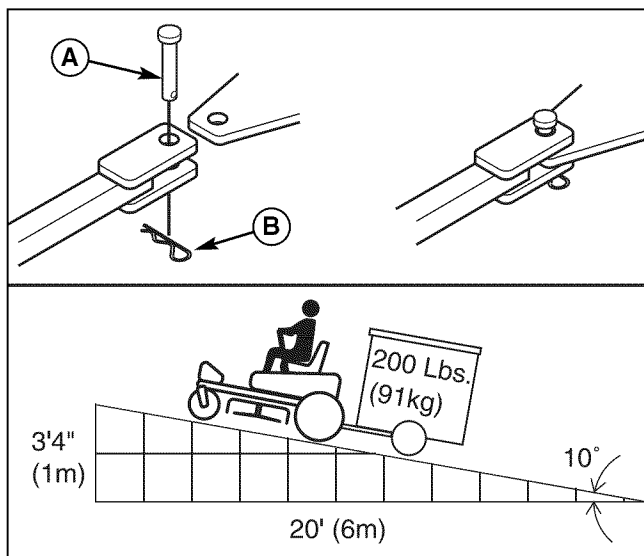

Figure 18. Trailer Weight Recommendations
The maximum weight of a towed trailer should be less than 200 lbs (91kg). Secure the trailer with an appropriately sized clevis pin (A, Figure 18) and clip (B).
- A.) Has more than .5" (12,7 mm) of the mower blade metal removed from previous sharpening or wear (D, Figure 18).